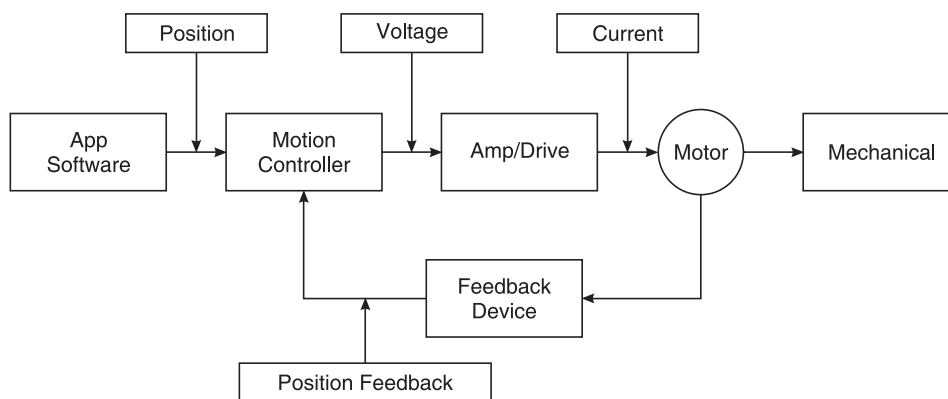

**Figure E8** Original image—bracket.
8. Using IMAQ Vision Builder, find the holes in the bracket shown in Figure E8. Use the threshold and morphology techniques. Create the LabVIEW file using the script developed using Vision Builder.